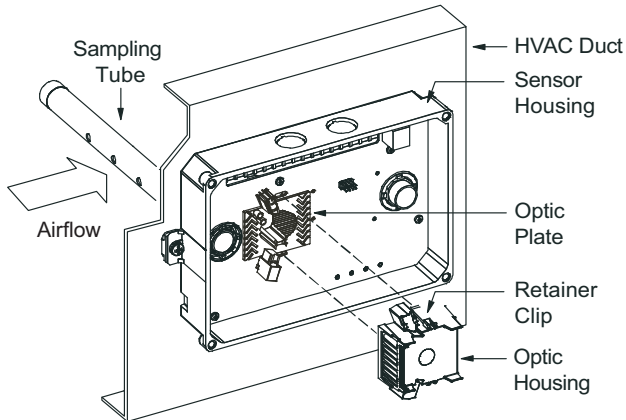

Fig. 42 — Sensor Cleaning Diagram
1. Disconnect power from the duct detector then remove the sensor's cover. See Fig. 42.